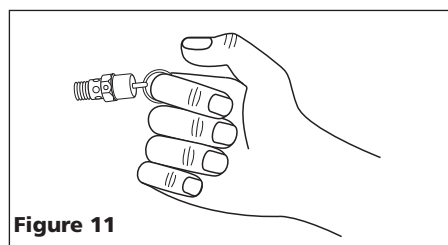

Figure 11
1. Pull ring on safety valve and allow the ring to snap back to normal position (see Figure 11). This valve automatically releases air if the tank pressure exceeds the preset maximum.